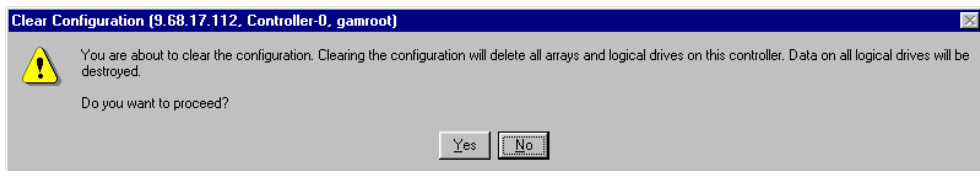

Figure 6-14. Clear Configuration Caution Message
3. Click OK to clear the configuration. A caution message box will open (see Figure 6-14).